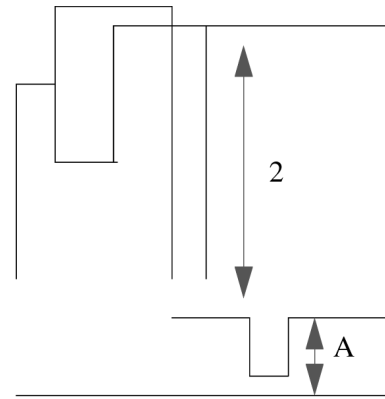

Fig. 2
3. Connect oscilloscope probe to TPA 32 (R OUT) with 10k series resistor and confirm waveform as in Fig. 2 is (2) $2.7 \pm 0.4V$.